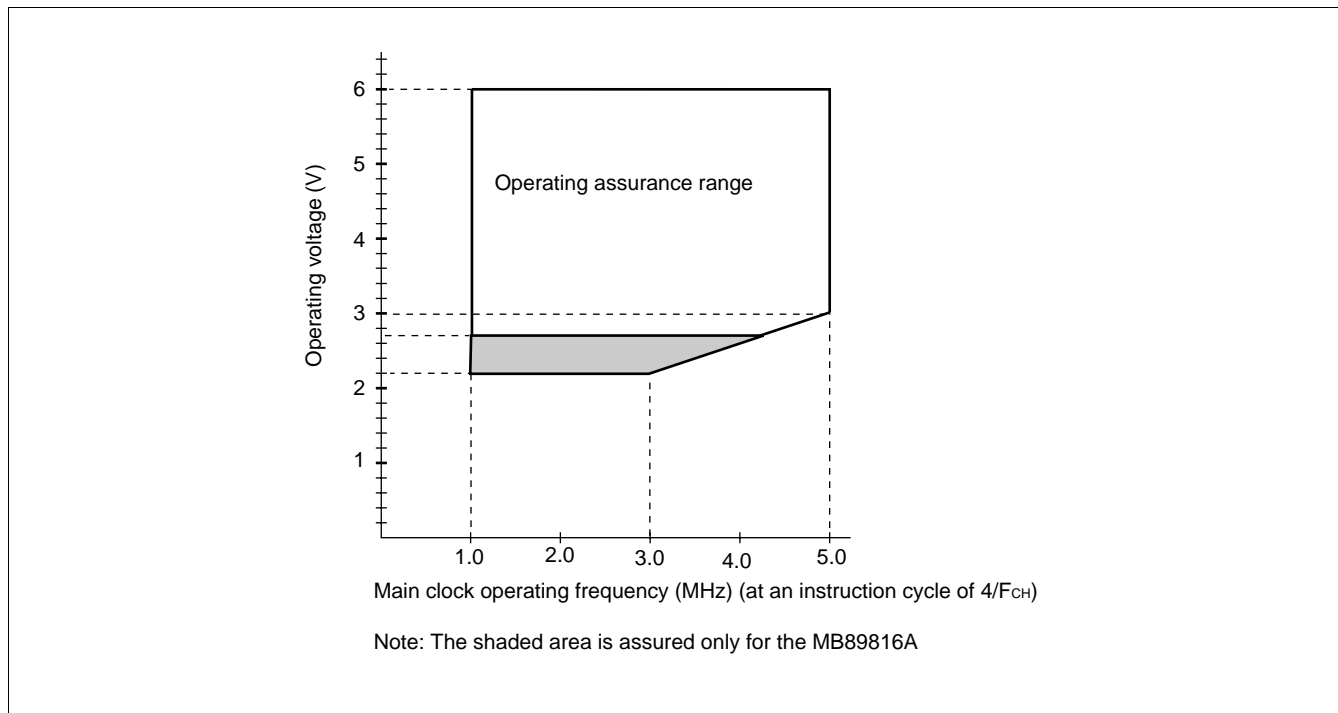

Figure 1 Operating Voltage vs. Main Clock Operating Frequency (for MB89816A)
*: These values vary with the operating frequency. See Figure 1.